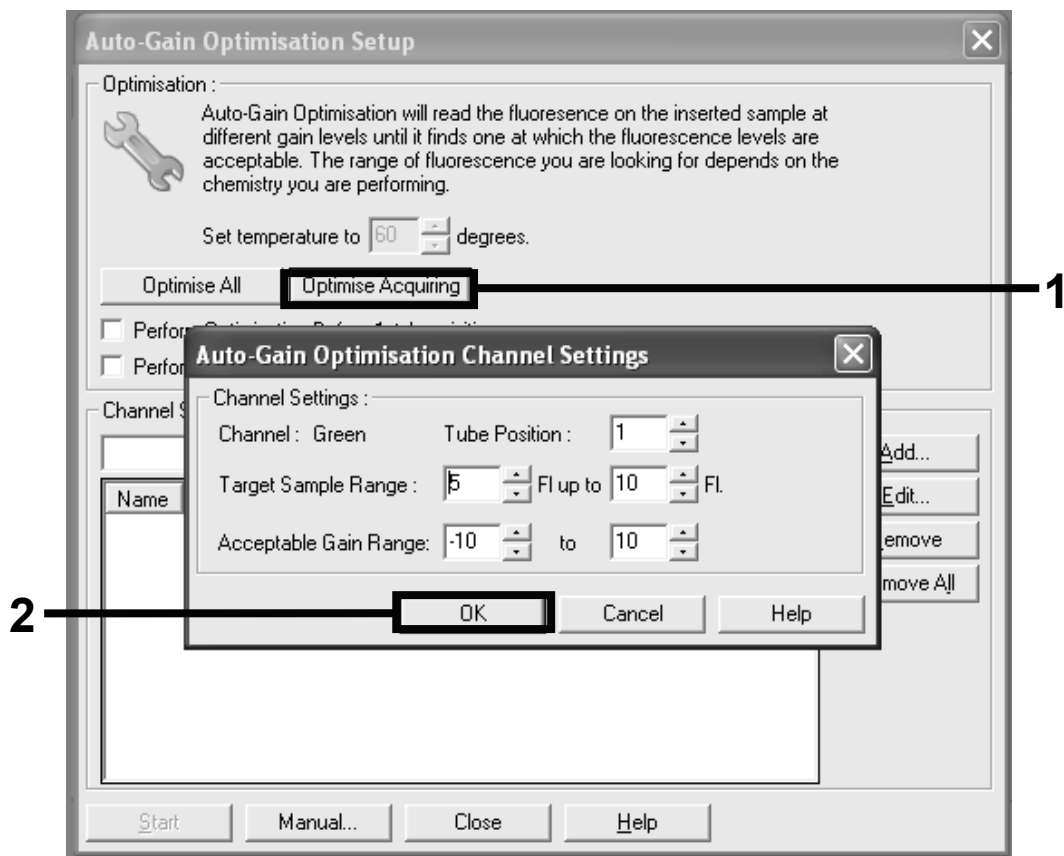

Figure 11. Auto-Gain optimisation for the green channel.
20. Select “Optimise Acquiring” button, and then click “OK for both the green and yellow channels (Figures 11 and 12).